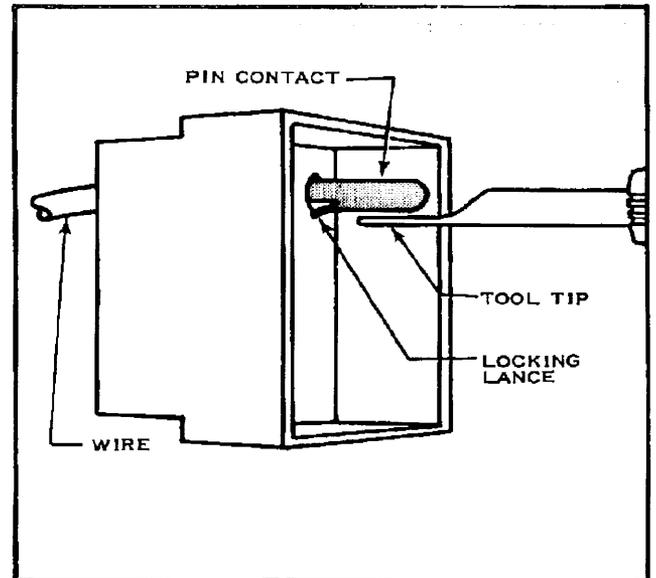

Fig. 3
- (a) Place Tool Tip against Locking Lance on Pin Contact as shown in Figure 3.
- (b) Use Tool Tip to depress Locking Lance enough to remove Contact from Housing. Then pull on Wire to remove Contact from Cavity. See Figure 3.